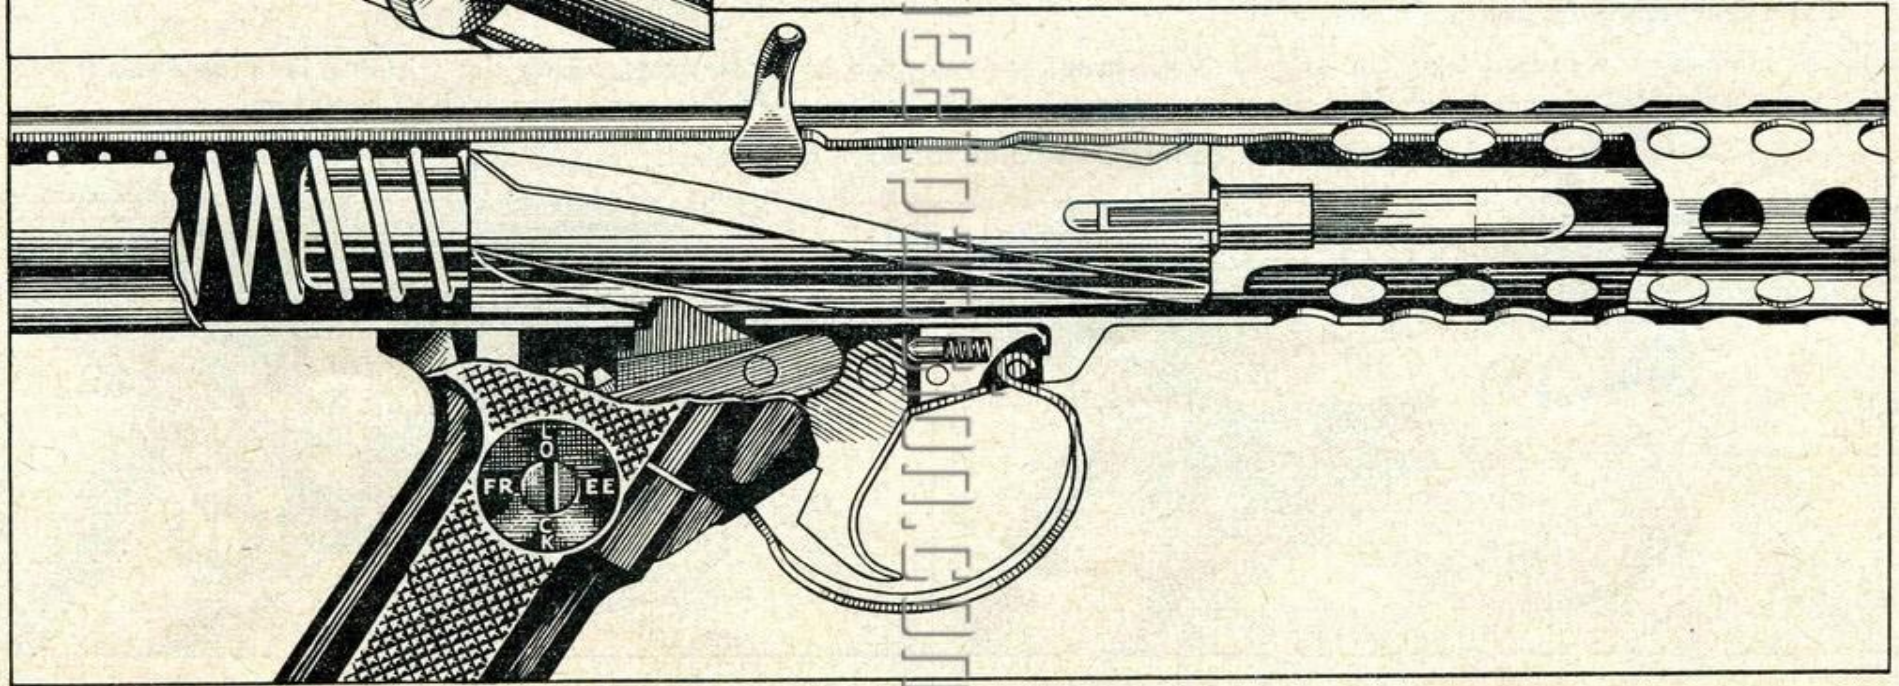

Fig. 3. Forward action
4.2 THE FORWARD ACTION (Fig. 3).